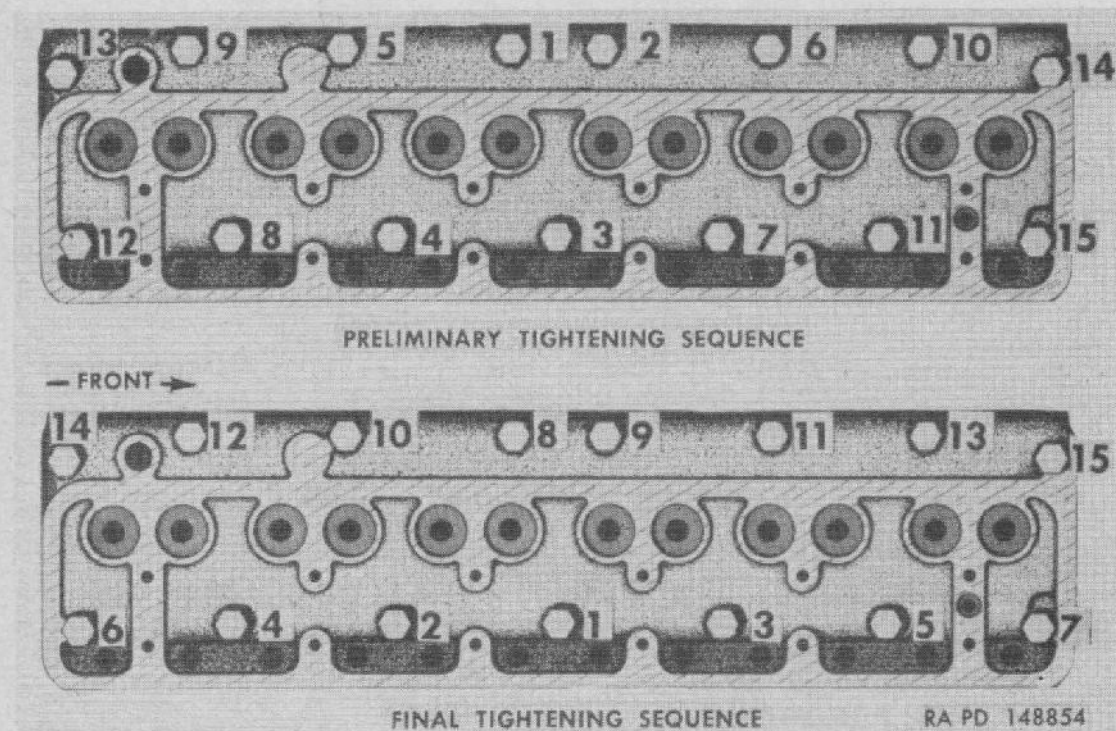

Figure 34. Cylinder head bolt tightening sequence.
- (2) Using torque wrench, tighten cylinder head bolts following preliminary tightening sequence (fig. 34). Preliminary tightening should be to 35 pound-feet torque; then follow final tightening sequence (fig. 34) and tighten all bolts to 75 to 80 pound-feet torque.